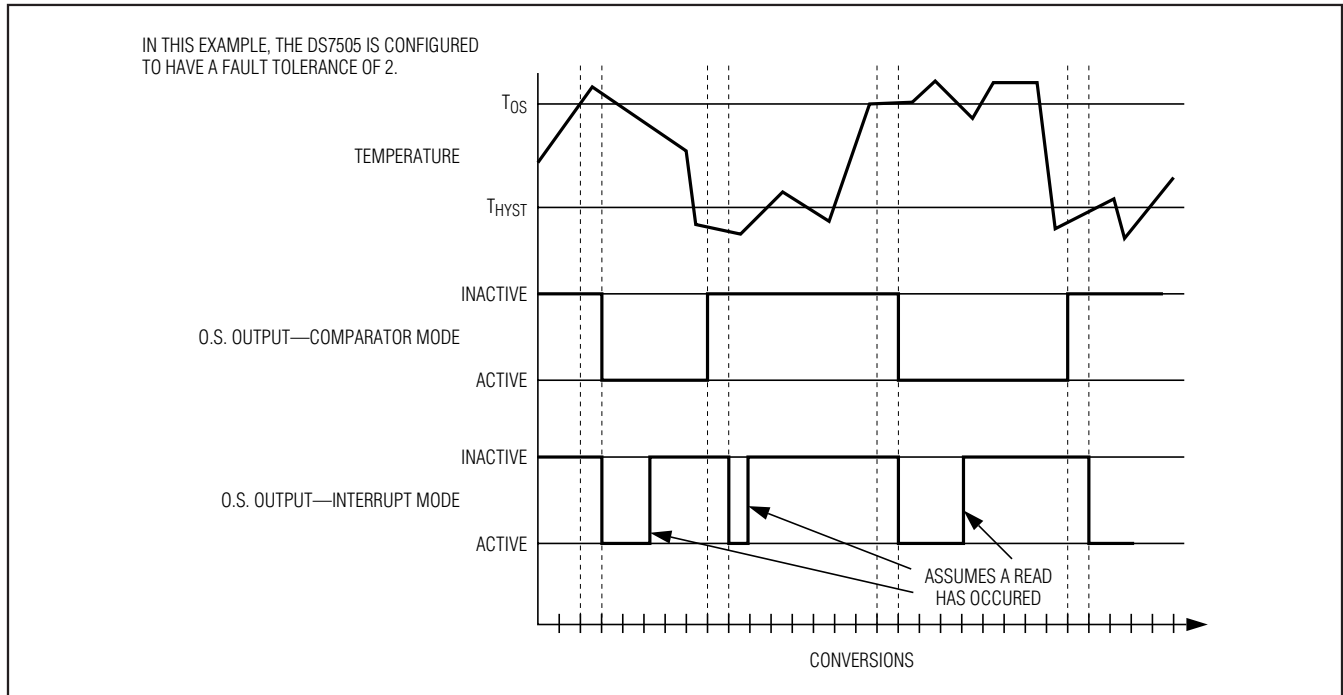

Figure 4. O.S. Output Operation Example
When the thermostat is in comparator mode, O.S. can be programmed to operate with any amount of hysteresis. The O.S. output becomes active when the measured temperature exceeds the T_{OS} value a consecutive number of times as defined by the F1 and F0 fault tolerance (FT) bits in the configuration register. O.S. then stays active until the first time the temperature falls below the value stored in T_{HYST}. Putting the device into shutdown mode does not clear O.S. in comparator mode. Thermostat comparator mode operation with FT = 2 is illustrated in Figure 4.
when the measured temperature falls below the T_{HYST} value a consecutive number of times equal to the FT value. Again, O.S. can only be cleared by putting the device into shutdown mode or reading any register. Thus, this interrupt/clear process is cyclical between T_{OS} and T_{HYST} events (i.e., T_{OS} , clear, T_{HYST} , clear, T_{OS} , clear, T_{HYST} , clear, etc.). Thermostat interrupt mode operation with $FT = 2$ is illustrated in Figure 4.